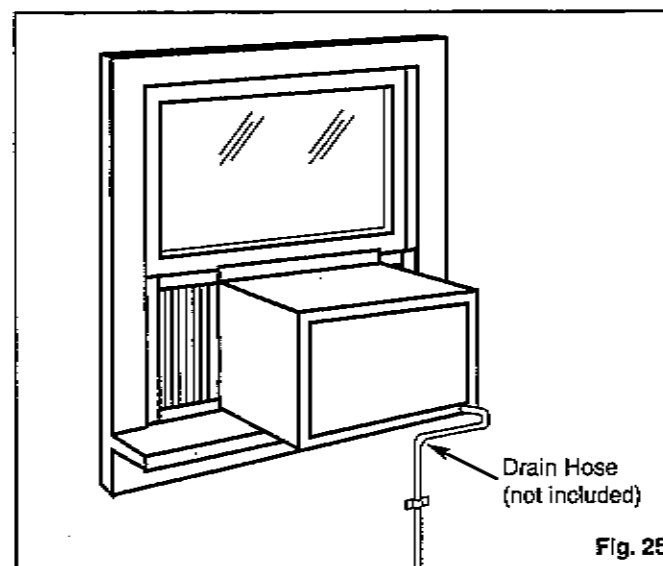

Fig. 25
- Under very humid conditions, water removal may be excessive enough to overflow from the rear of the unit or increase noise levels of the air conditioner. If this occurs, you may want to attach a section of (garden) **drain hose (not included)** to the drain plug located at the rear of the unit, this will permit condensation to run off more conveniently. See Fig. 25.
Un raccord pour drain (à l'exclusion du tuyau) est fourni pour rediriger l'écoulement supplémentaire de condensation. Voir Fig. 25.